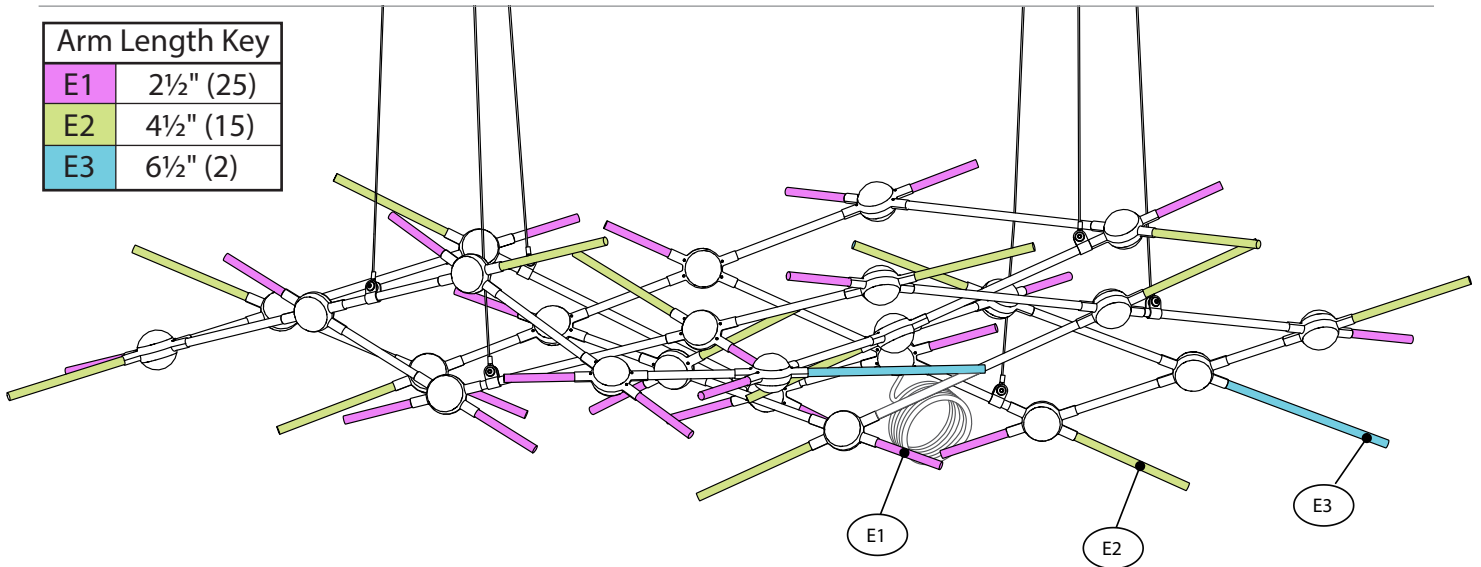

Fig. 10a - Front View
- Build this section using the End Arms from the Section 6 boxes (3).
- Start by connecting the E3 End Arms (2) as indicated in Figs. 10a/10b.